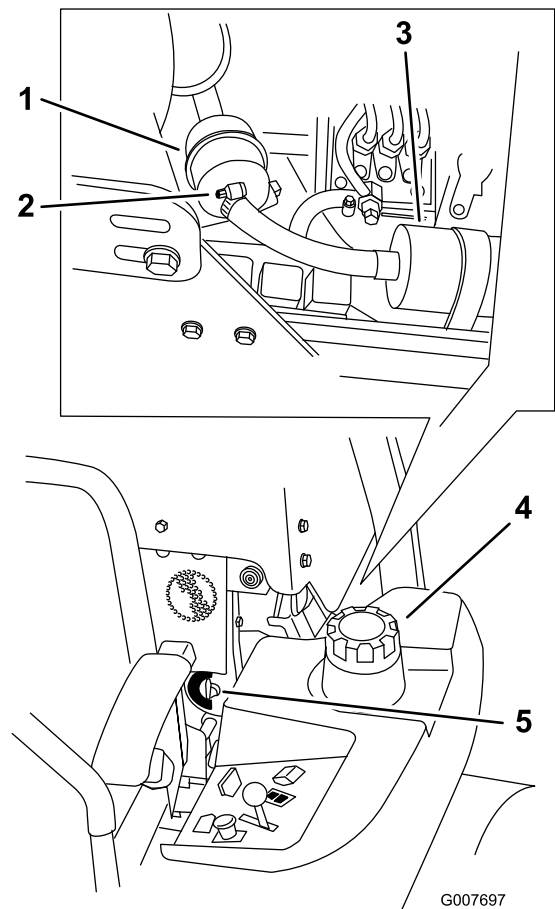

Figure 59
4. Close the fuel shut-off valve (Figure 59).
5. Loosen the 2 hose clamps and disconnect the fuel lines from the fuel filter (Figure 59).
6. Install a new filter. Connect the fuel lines to the fuel filter and install the 2 hose clamps (Figure 59).